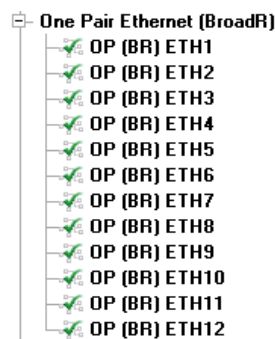

Figure 66: neoVI Explorer Automotive Ethernet Parameter Group.
This section of neoVI Explorer provides parameters to control the operation of the RAD-Galaxy's 100BASE-T1 (BroadR-Reach) Ethernet channels. Overall control parameters are found within the parent *One Pair Ethernet (BroadR)* entry, while those for individual 12 channels are located in the subordinate *OP (BR) ETHxx* entries, where xx varies from 1 to 12. The group as a whole can be seen in Figure 66.